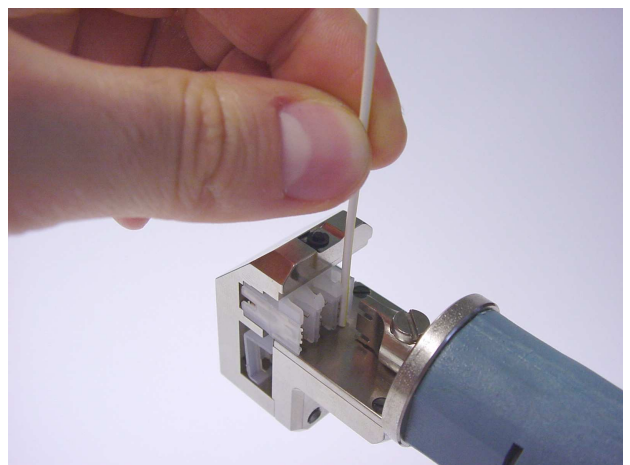

Figure 3
**2.** Now a stranded wire, justified between the retainers, is positioned in front of the contact cavity. Thereby the base of the pliers conduces as stop (see figure 3).